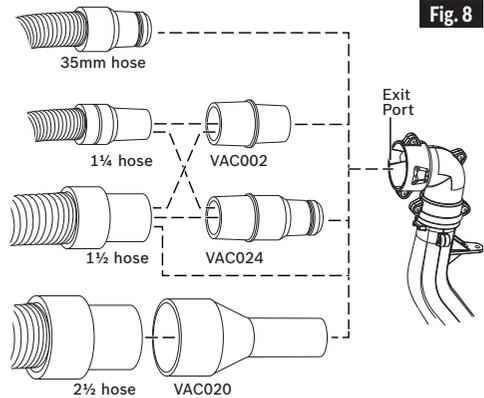

Fig. 8
**Attaching to Vacuum** – Insert the vacuum fitting or tube into the exit port as far as it will go, (figure 8). Check to see that the vacuum hose is free from the mechanism and cutting path before plugging saw into power source.